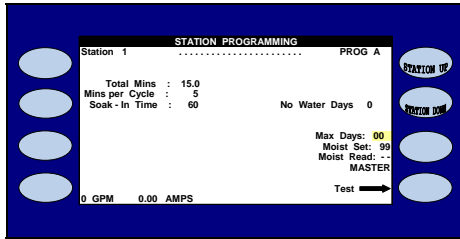

Figure 5.37
- **MAX DAYS:** This entry is used to automatically bypass the moisture sensors of individual stations so they will receive their maximum programmed water time. The controller will display the number of days remaining and can be cleared at any time. After the programmed Maximum Water has elapsed, the system will automatically return to moisture sensing operation (Figure 5.37).